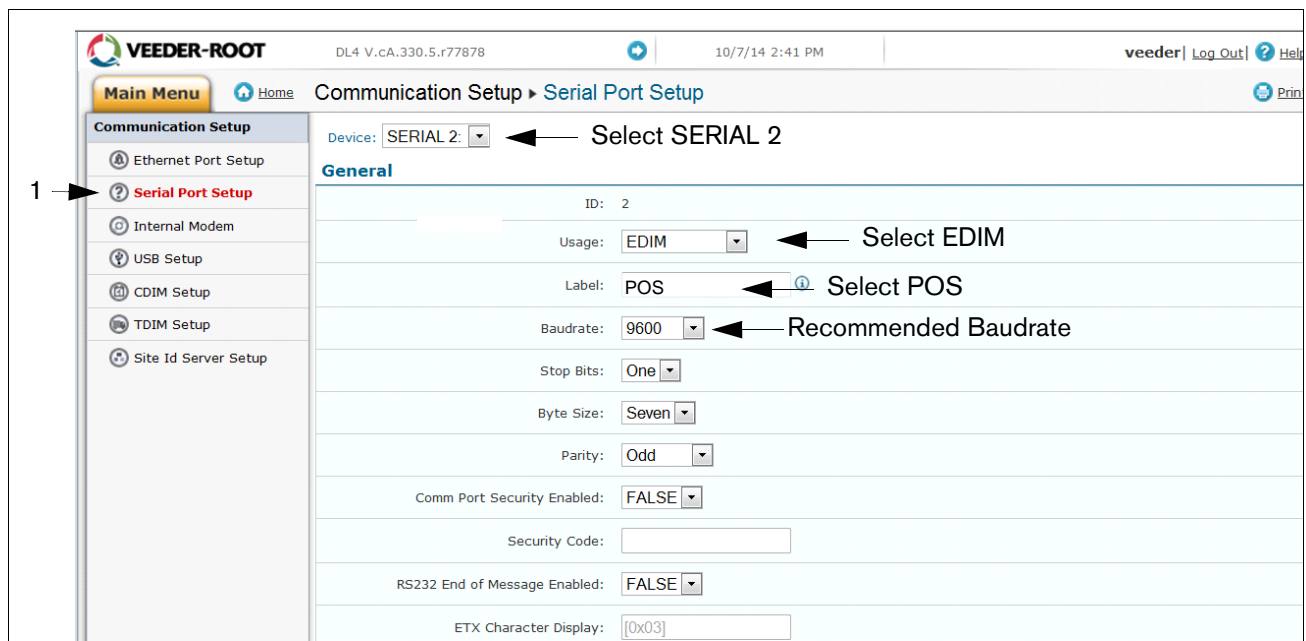

Figure B-5. Serial Port Setup, SERIAL 2-POS
8. Click on "Serial Port Setup" (1) and in the "Device" field, select "SERIAL 2:". Use this connection for the connection to the POS, and enter "POS" for the Label. Set the correct communications parameters for the POS using the drop down menus. Click the "Save" button to keep these settings (see example in Figure B-5).